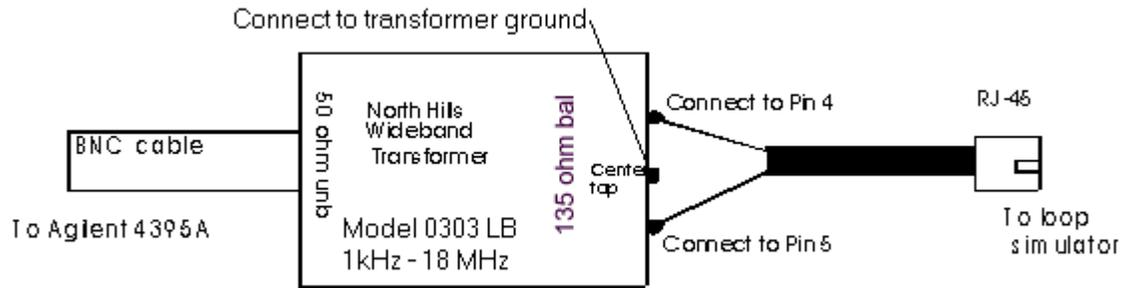

Figure 3.11 North Hills 50/135 ohm transformer, Model 0303 LB
- 50 to 135 Ohm North Hills transformers, Model 0303LB (see Figure 3.11), quantity 2